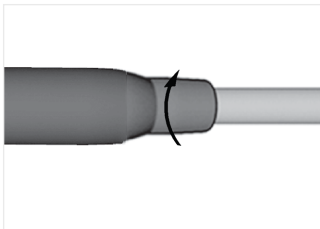

FIG. 3
3. Holding the motor fully screw the hose sleeve to the rear motor connection FIG. 3.